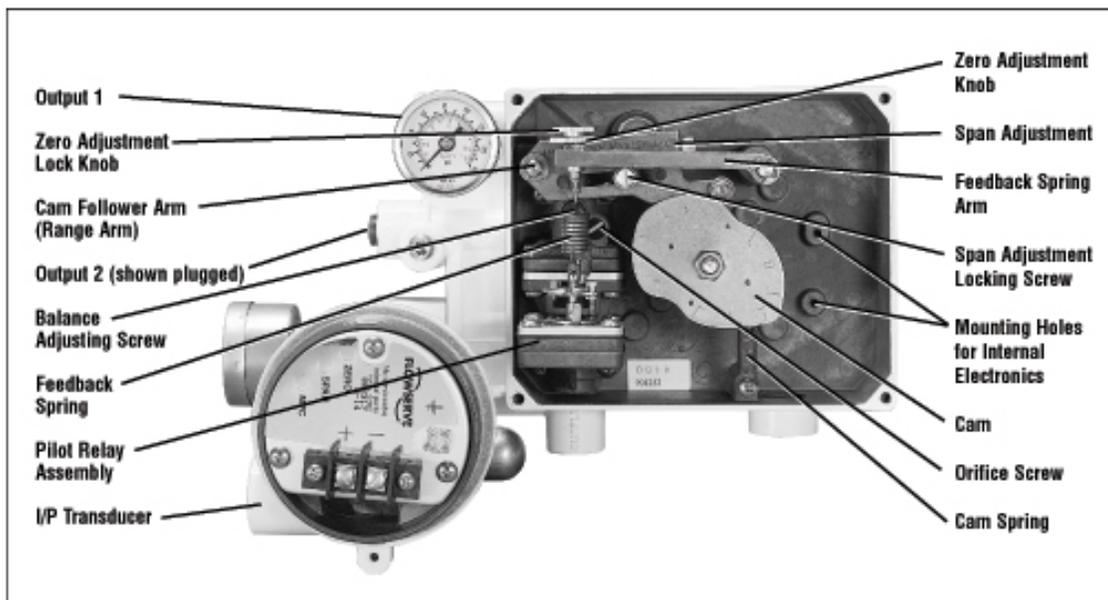

Figure 4: Positioner Adjustments
*For calibration, refer to Figure 4 and proceed as follows:*
7. Connect Cam return spring. See Figure 4.
4. Remove rubber cap over balance adjustment screw. (See Figure 4.)